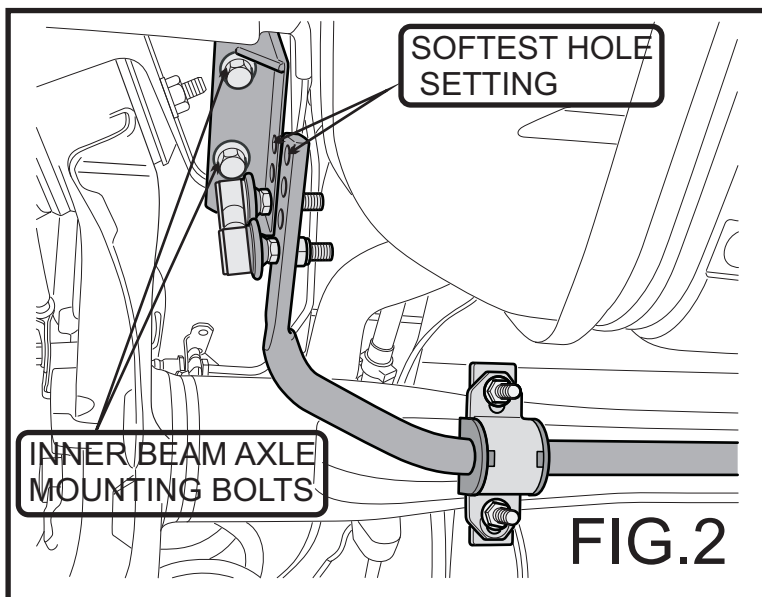

FIG.2
2. Remove the 2 inner beam axle mounting bolts on either side of the vehicle (indicated in FIG.2) assemble the swaybar link mount placing the supplied 20mm (thick) crushtubes between the beam axle mount and the supplied swaybar link mount (spacing the supplied bracket away from the floorpan) using the supplied 90mm long bolts.
4. Mount swaybar links in place making sure the supplied small washers are between the nuts and the swaybar. Ensure the swaybar links are mounted into the softest hole on the swaybar (as indicated in FIG.2) until you are accustomed to the change in the vehicles suspension characteristics.